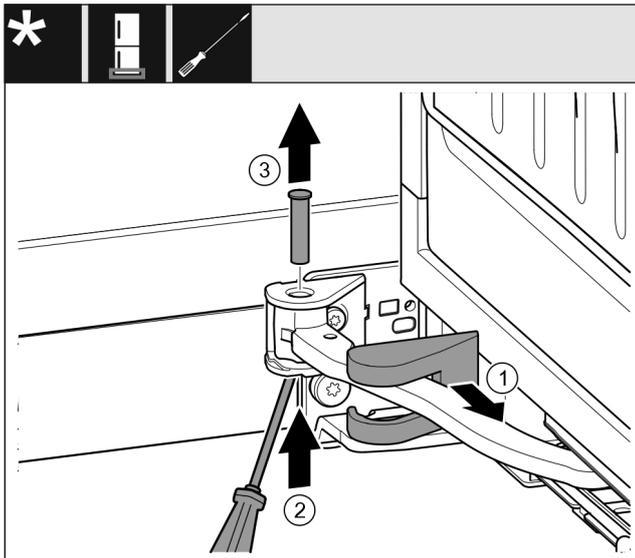

Fig. 19
- ▶ Remove the swap bearing block cover Fig. 19 (1) and slide along the joint.
- ▶ Use a screwdriver to lift the bolt Fig. 19 (2) from below.
- ▶ Pull out the bolt Fig. 19 (3) from above.